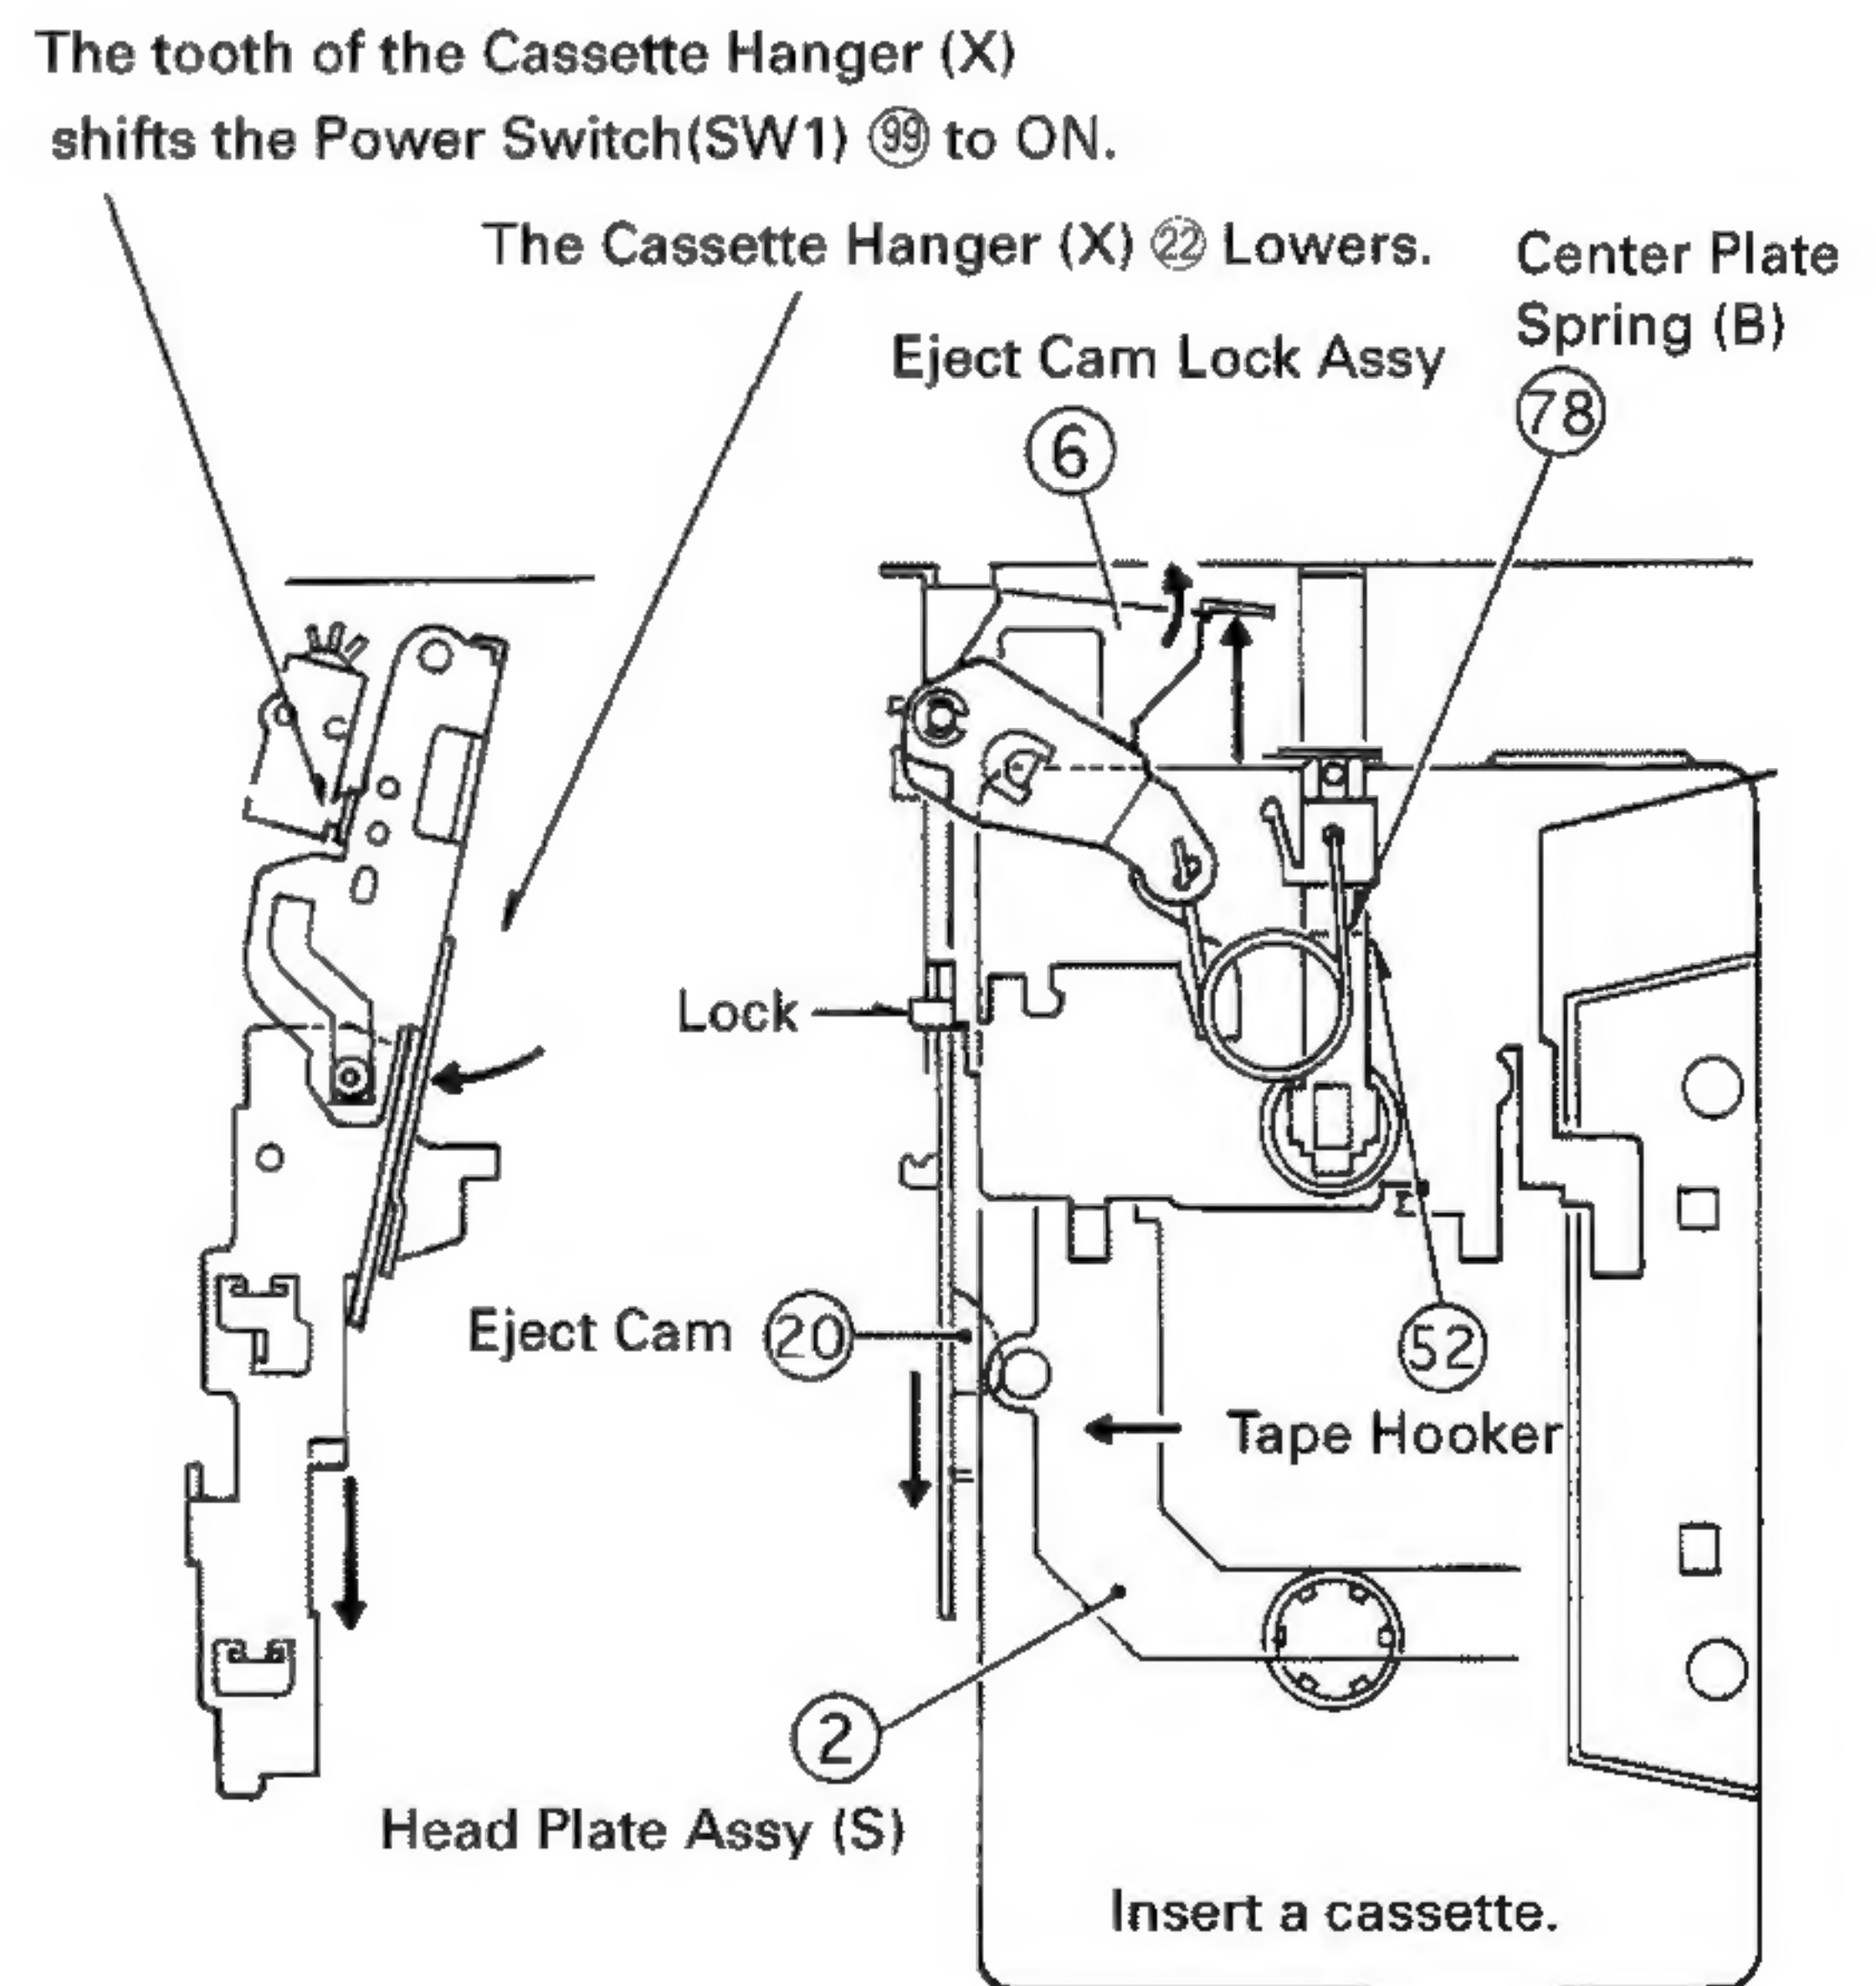

Fig. 8
- (1) Inserting a cassette rotates the Center Plate Spring (B) ⑦⑧ in the reverse direction to activate pressure in the withdrawal direction.
- (2) The Tape Hooker ⑤② withdraws the cassette by the pressure of the Spring.
- (3) The Tape Hooker ⑤② taps the Eject Cam Lock Assy ⑥ to unlock the Eject Cam ②⑩. Then the Eject Cam ②⑩ moves in the direction shown by an arrow in the Fig.8.
- (4) The Eject Cam ②⑩ lowers the Cassette Hanger (X) ②②, and the Head Plate Assy (S) ② moves forward.
- (5) The tooth of the Cassette Hanger (X) ②② shifts the Power Switch(SW1) ⑨⑨ to ON.